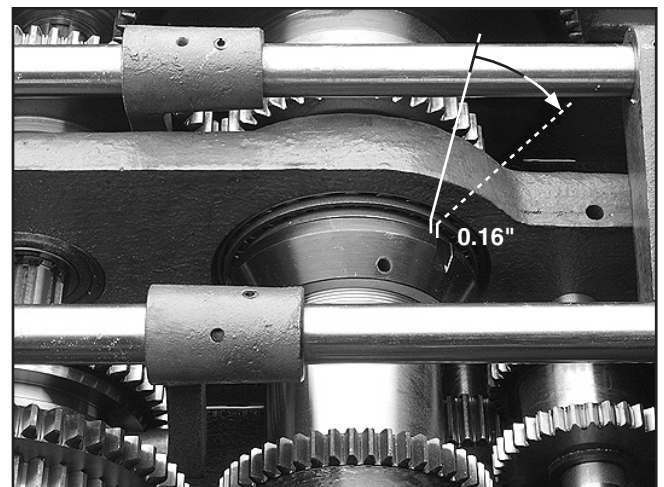

Figure 73. Preload spanner nut adjustment.
14. To set the preload, rotate the spanner nut an additional 0.16" as shown in **Figure 73**.